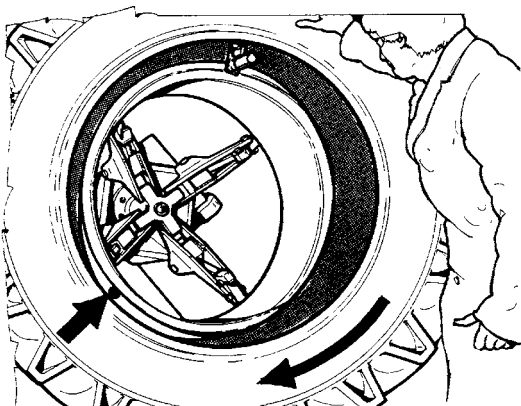

Fig.50
3. Place the hook tool as shown in fig.50.